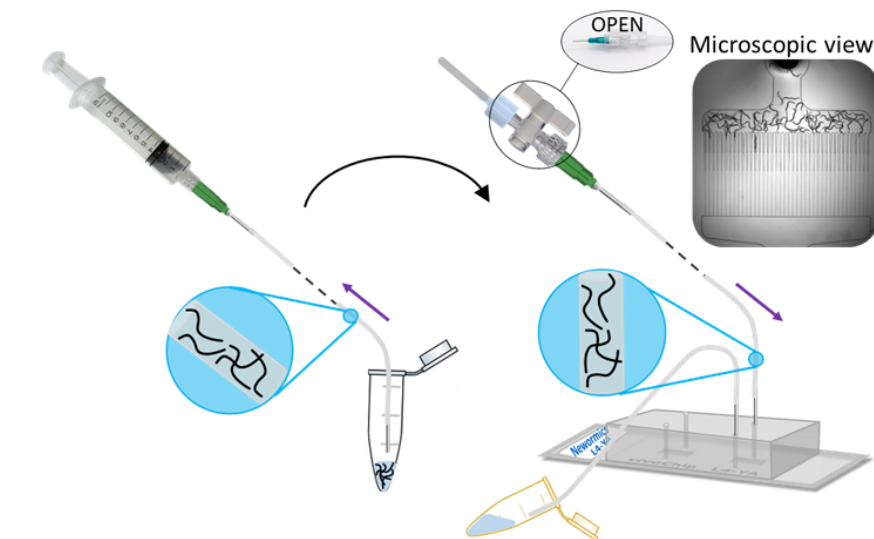

Figure 13: Schematic steps for transfer of worms from 1.5 mL centrifuge tube to vivoChip-2x using included syringe and tubing
- 4.2 While performing steps 4.3 through 4.11, refer to Figure 13, which outlines the process of transferring worms from the growth plate to the input tubing.